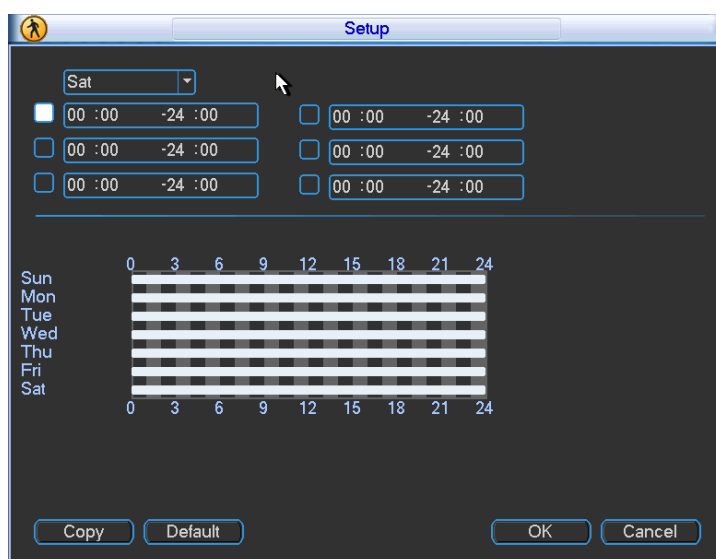
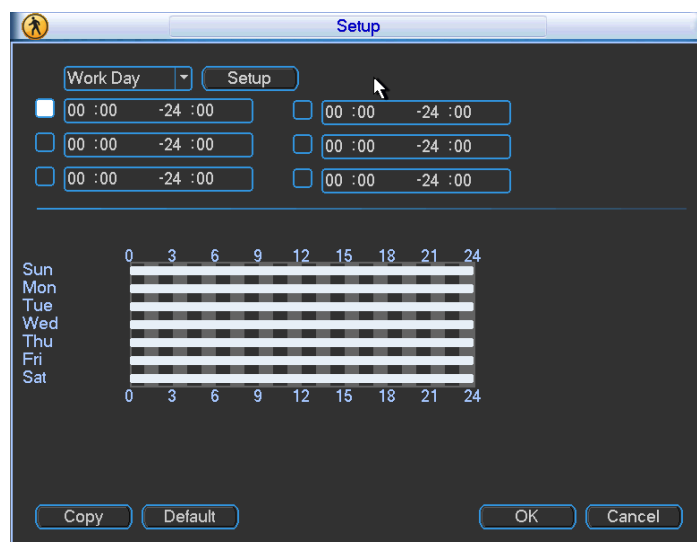

Figure 4-27
Figure 4-28
- Period: Click set button, you can see an interface is shown as in Figure 4-27. Here you can set motion detect period. System only enables motion detect operation in the specified periods. It is not for video loss or the camera masking. Please select Sunday to Saturday from the dropdown list. You can see there are six periods for you to set. Please note you need to check the box before the period to enable the period setup valid. In Figure 4-27, select work day or non-work day from the drop down list, and then click the Set button, you can set your own business day and non-business day setup. See Figure 4-28. You can set Monday to Friday as the working day and Saturday and Sunday as non-business day. Click Save button to go back to previous interface.